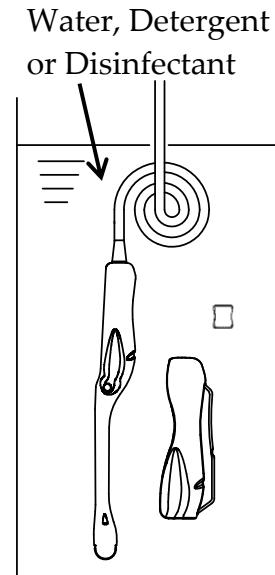

Fig. 17 Immersion of the probe and the Attachment.
- 2) Immerse the immersible part of the probe without connector into the diluted detergent solution (see Fig. 17). Wipe the immersible part of the probe under the surface of the detergent solution with a soft cloth to remove all visible soil. Be sure that all grooves of the probe are implemented during the cleaning process.
- 5) Rinse the probe with running tap water for 1 minute. (alternatively: immerse the immersible part of the probe in a tray filled with deionized water/tap water (see Fig. 17) for 5 min.)
- 4) Rinse the Attachment with running tap water for 1 minute. (alternatively: immerse it in a tray filled with deionized water/tap water (see Fig. 17) for 5 min.)
- 3) Immerse the immersible part of the probe into the disinfectant (see Fig. 17). Set a clock to insure the recommended contact time which is 5 minutes.
- 4) Rinse the immersible part of the probe with deionized water for 1 minute. (alternatively: immerse the immersible part of the probe in a tray filled with deionized water (see Fig. 17) for 5 min.)
- 2) Immerse the Attachment into the disinfectant (see Fig. 17). Set a clock to insure the recommended contact time which is 5 minutes.
- 3) Rinse the Attachment with deionized water for 1 minute. (alternatively: immerse it in a tray filled with deionized water (see Fig. 17) for 5 min.)